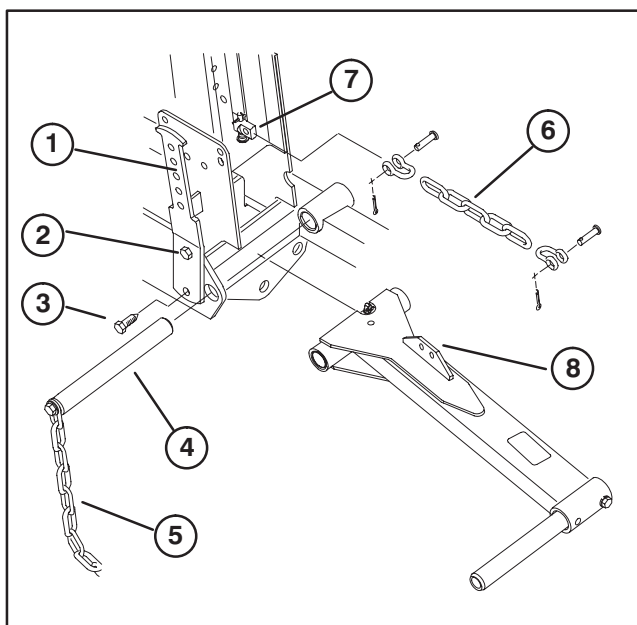

Figure 7
3. Loosen top capscrew securing left counterbalance arm to frame (Fig. 7).
5. Rotate counterbalance arm outward allowing removal of lift arm pivot pin and tipper chain (Fig. 7).
6. Position lift arm between frame members, align mounting holes and re-install pivot pin (Fig. 7). Pivot pin must be inserted so counterbalance arm fits into slot in pin. Do not secure counterbalance arm at this time.